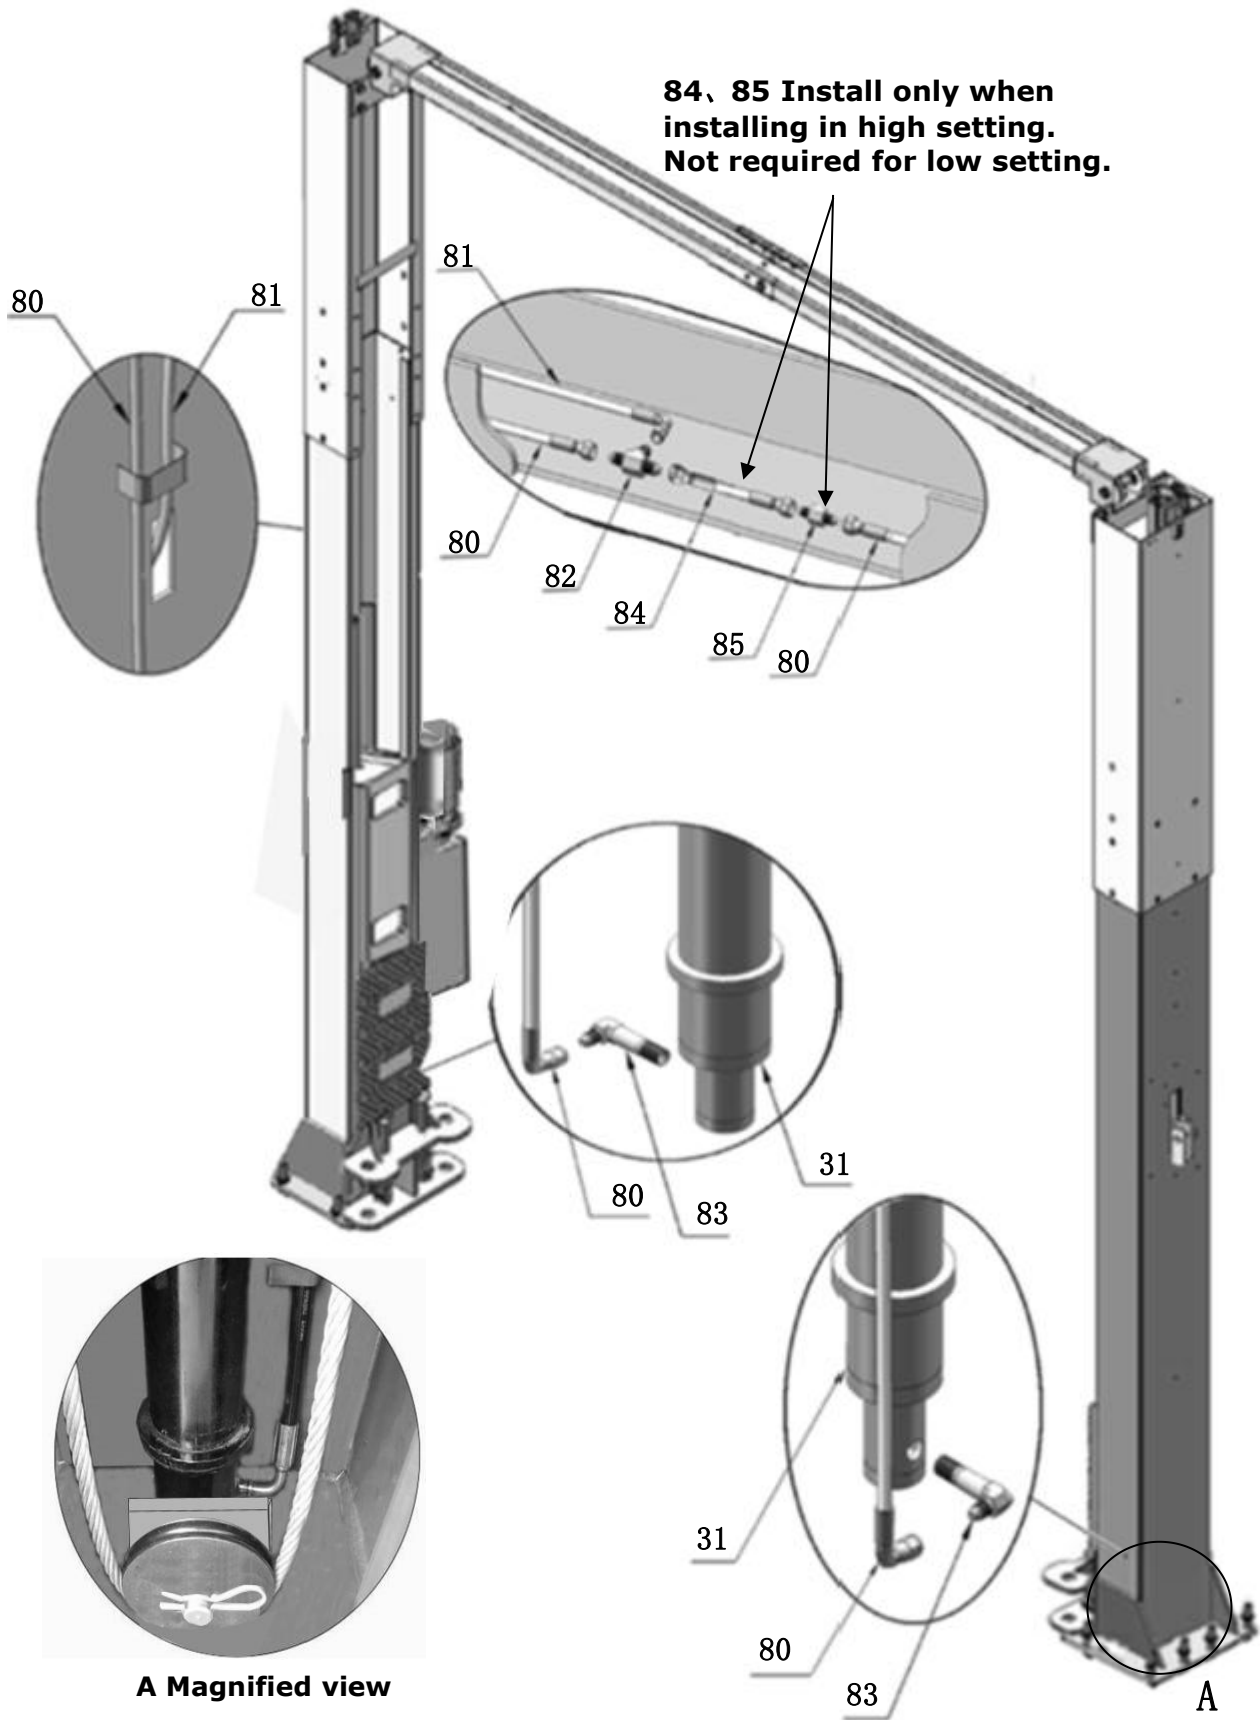

Fig.30
2. OHX-10H Oil hose Installation (See Fig. 30).